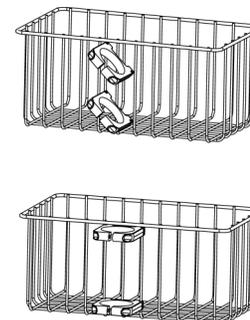

Figure 7: GCX Utility Basket
- GCX Utility Basket. See Figure 7, page 17.
The GCX utility basket attaches to the GCX roll stand polymount as shown in Figure 7. For further instructions regarding connecting the GCX utility basket, refer to the illustrated directions for use included with GCX utility basket.